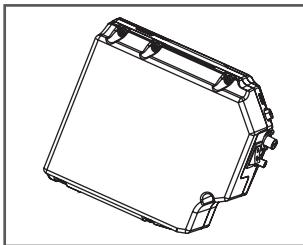

Figure 19
a. Loosen the 6 self-tapping screws from inside of the electric wheelchair (i.e. back of the battery box) and open the back cover, see Figure 19. The methods are same for left side and right side;